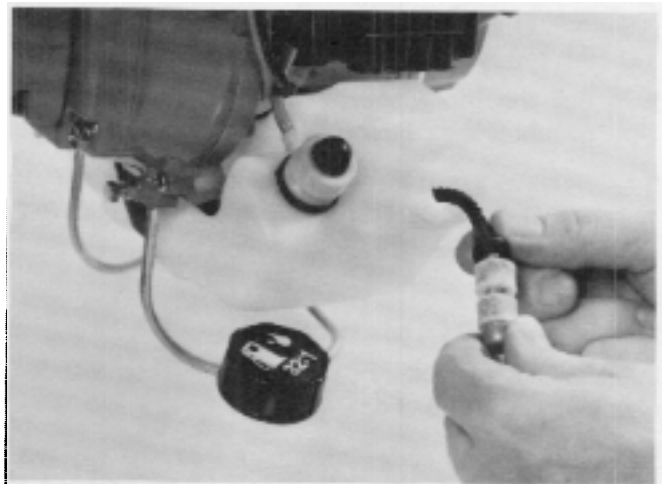

Figure 4
2. Remove the fuel tank cap. Insert a clean wire with a hooked end into the tank and hook the pickup tube above the filter. Pull the filter and hose out the fuel tank opening. See Figure 4.